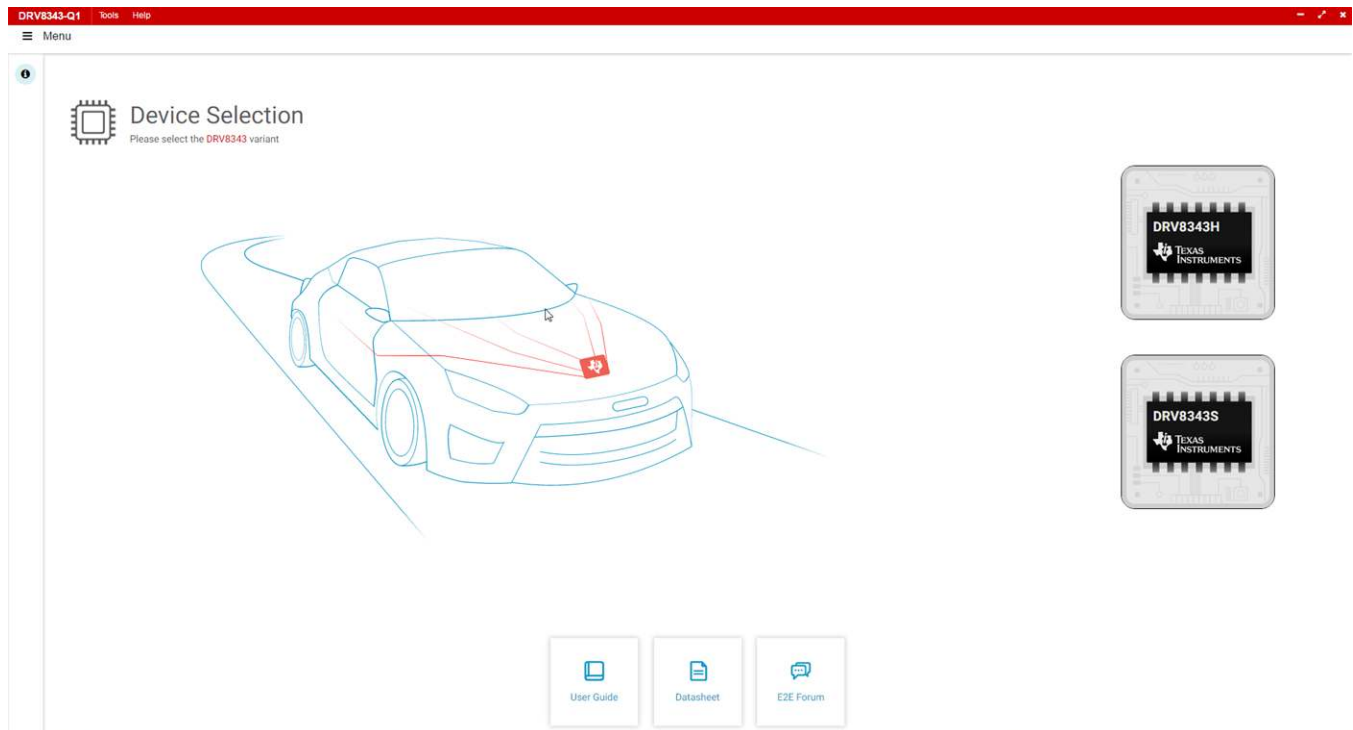

Figure 2. DRV8343x-Q1EVM GUI (Launch Page)
- Step 5. Select the device variant to be used in the launch page shown in Figure 2.